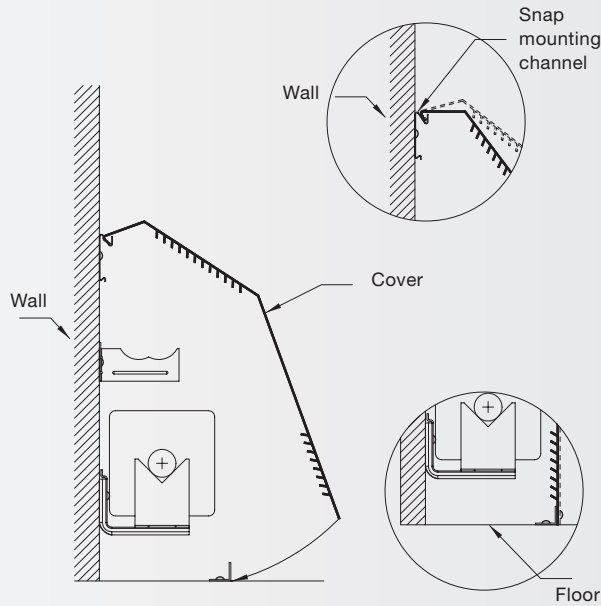

Figure V-5
1. Install floor angle to floor using suitable fasteners. For 3-15/16" deep enclosure, the floor angle must be mounted 3-7/8" from the base at the wall. For 5-3/8" deep enclosure, the floor angle must be mounted 5-5/16" away from the base of the wall. (Figure V-5)